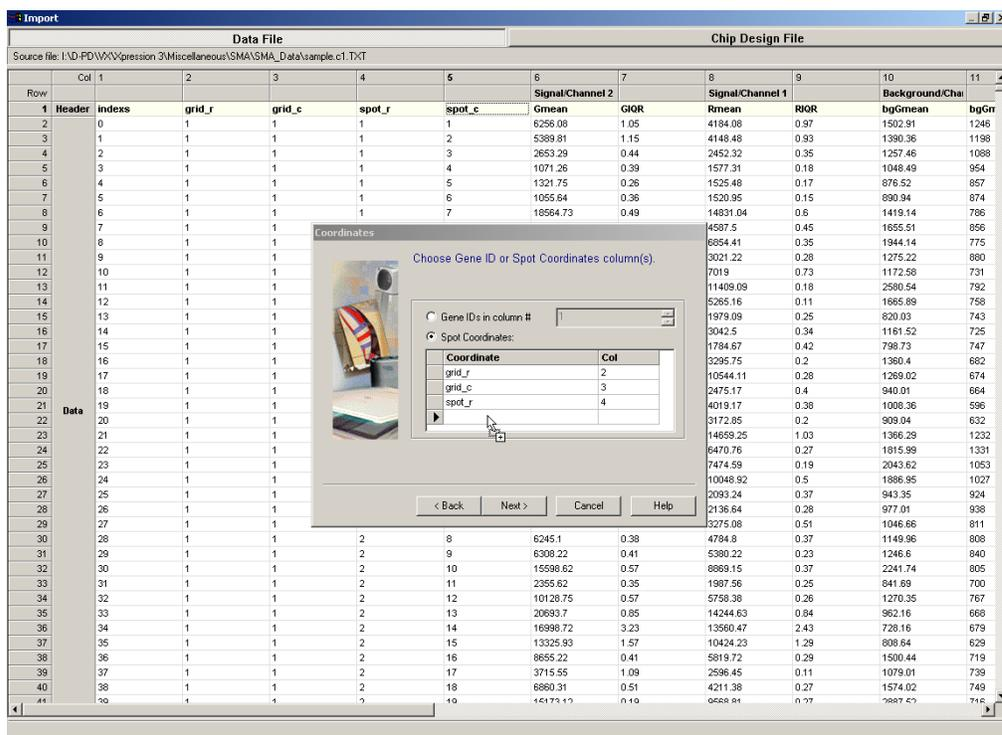

Figure 13 Chip Design Window
- c. Drag the column headers in the spreadsheet named **grid_c**, **spot_r**, and **spot_c** to consecutive rows, as illustrated in the dialog box in Figure 13.